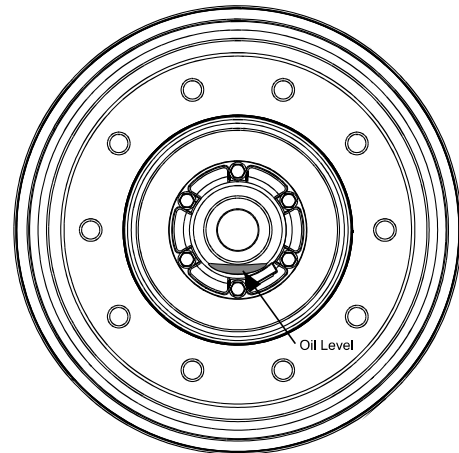

Figure 19 - Wheel Bearing Oil Level
23. Check oil level through the hub cap window. (**Figure 19**). If level is below the "add" level line, then fill with recommended oil until "full" level is achieved. Add oil slowly since the heavy weight oil will settle slowly in the hub.